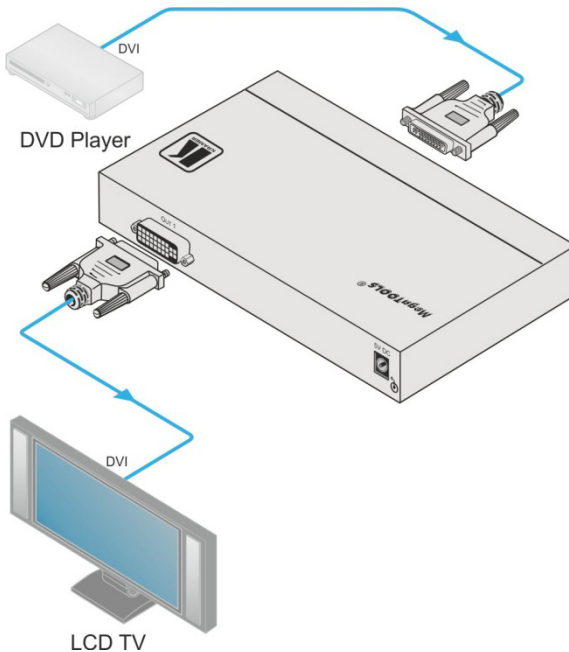

Figure 3: Connecting the VM-200HDCP 1:2 DVI Distributor
**To connect the VM-200HDCP as illustrated in the example in Figure 3:**
3. Connect the power adapter to the **VM-200HDCP** and to the mains electricity (not shown in Figure 3).